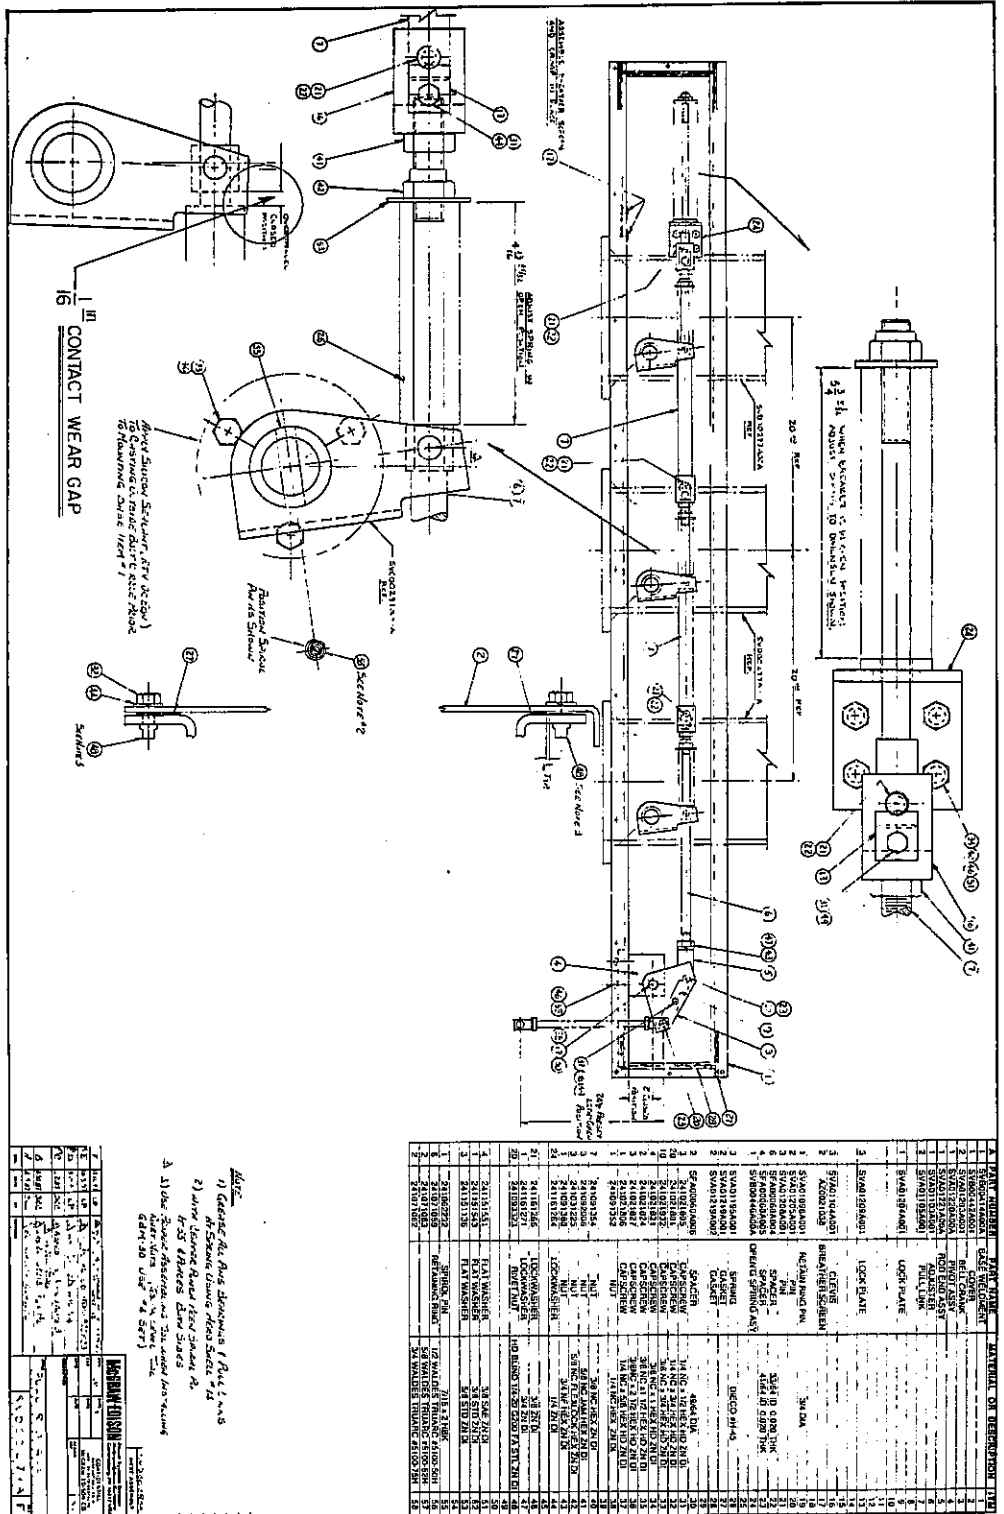

Figure 6.
- I. Fast close the breaker, make adjustments [(Figure 6) Linkage Assembly Instructions].
- J. Fast open the breaker, make final adjustments (Figure 6).